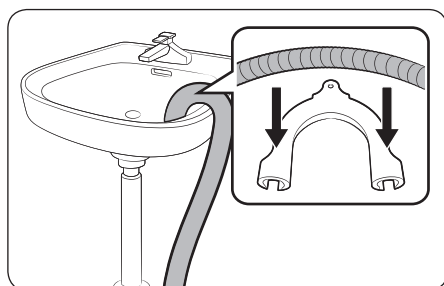

Fig.8
- Hook the hose guide over the side or standpipe (Fig.8).